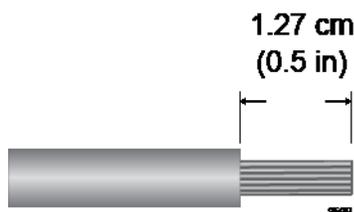

Figure 79. Stripping the Power Wires
1. Prepare adequate lengths of two stranded 8 AWG power wires by stripping them as shown in Figure 79 on page 132.